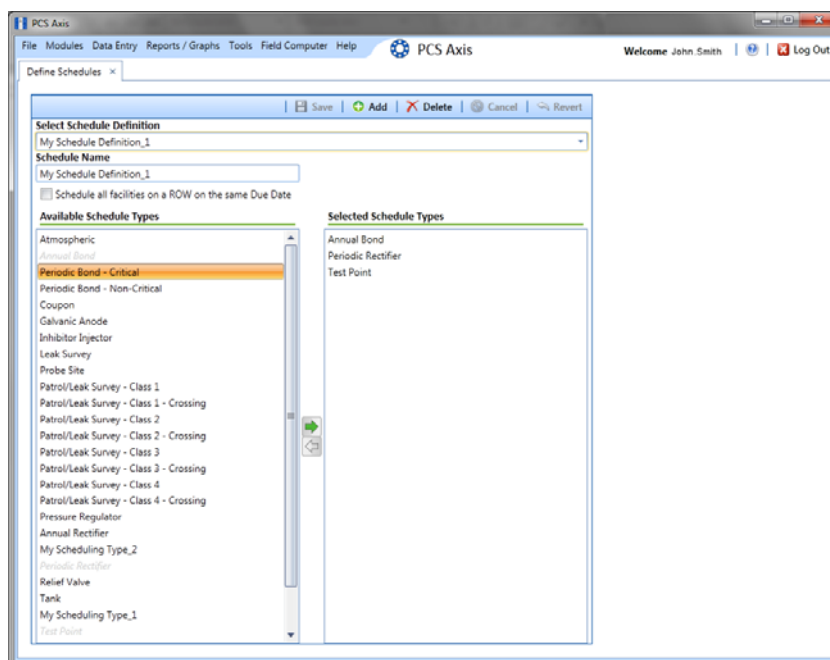

Figure 8-12. Adding a Schedule Definition Addition
- 1 Click **Data Entry** > **Define Schedules** to open the *Define Schedules* window (Figure 8-12).
- 4 Click the top arrow button  to move the schedule type(s) to the *Selected Schedule Types* pane (Figure 8-12). Click  **Save**. The addition is now available in the *Select Schedule Definition* selection list.
- 1 Click **Data Entry > Define Schedules** to open the *Define Schedules* window (Figure 8-12, page 382).